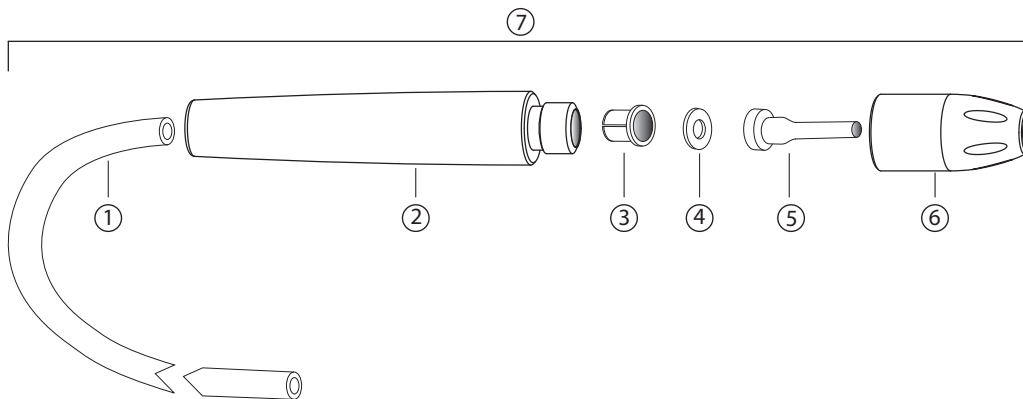

Figure 2
2. Remove the handpiece assembly ⑦ (Fig. 2) from inside the cabinet by pulling the tubing through the rubber grommet.
3. Unscrew the nozzle cap ⑥ to remove the tip ⑤ and the O-ring ④. Using a pair of pliers, grasp the handpiece insert ③ and with a twisting motion pull the tubing through the handle ② while trying to not to damage the part with pliers. Pull the handpiece insert from the tubing by twisting and pulling.